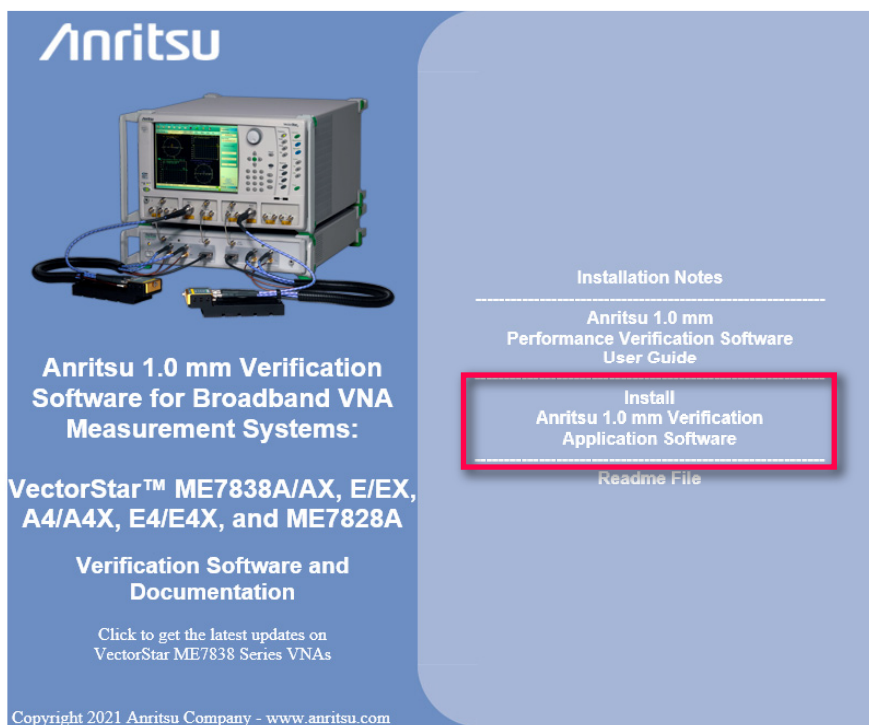

Figure 4-1. PVS Installation and Documentation Screen
10. The installer adds all required files and makes the necessary registry updates on the PC Controller. When done, the navigation page (Figure 4-1) reappears.